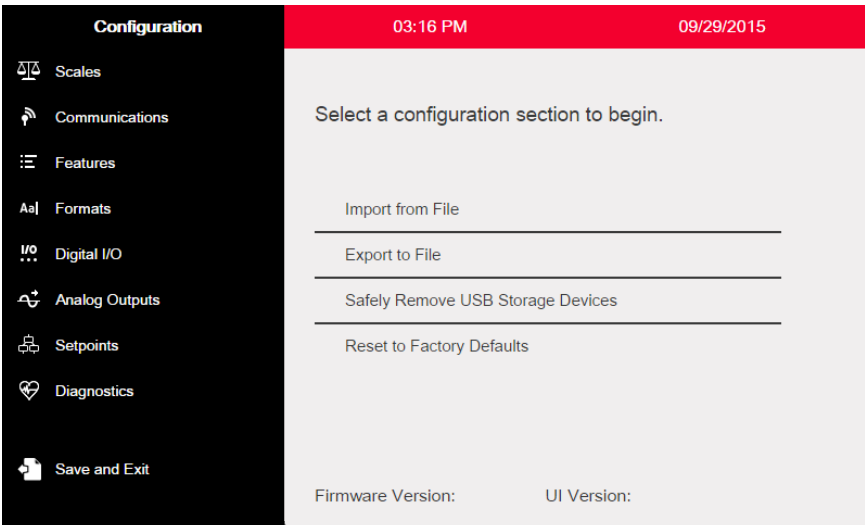

Figure 13-1. Configuration Main Menu
2. Press **Import from File**. See Figure 13-1. The Import Screen (Figure 13-2) will display. Load both the .rev and .cod files to use the built-in application programs.
4. Select **Import from File** (see Figure 13-1). The Import Screen (Figure 13-2) will display.
2. Press **Import from File**, see Figure 13-1. The Import Screen (Figure 13-2) will display.
2. Press **Import from File** from above diagram, see Figure 13-1. The Import Screen (Figure 13-2) will display.